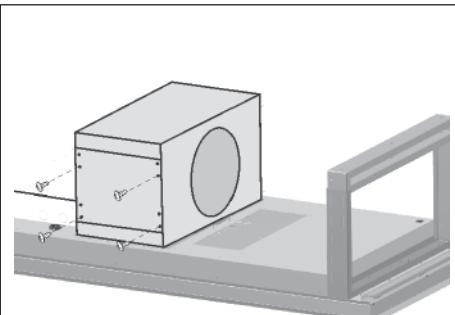

FIG.15
- Remove (4) screws from sides of blower box (Fig.15).